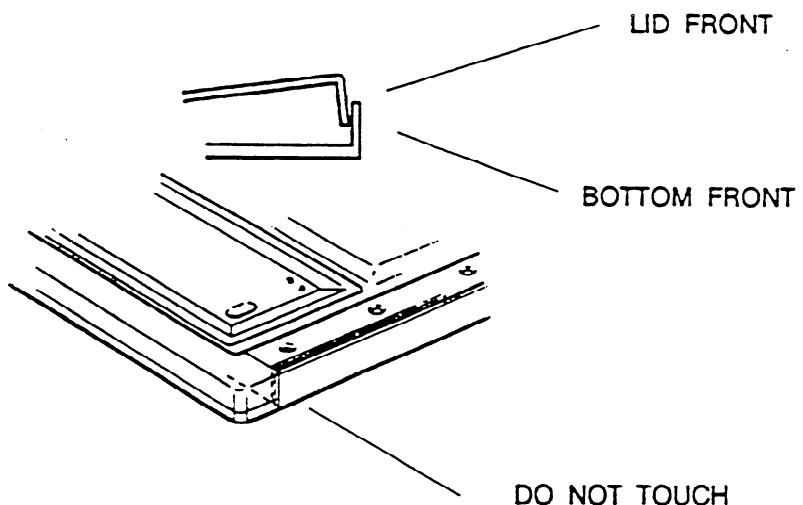

figure 85
- 4.** Use your hand to check the pressure to close the **LID**. No extra pressure should be used when the **LID HOOK** touches the **BOTTOM HOOK** (see fig. 85).